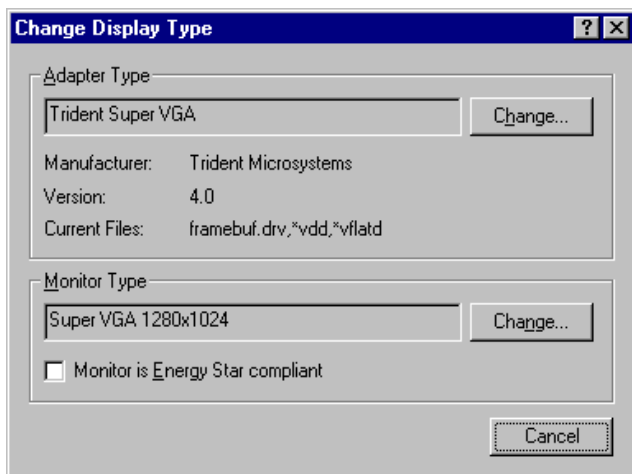

Figure 3-3.
4. **SELECT** either the “Change Display Type” or the “Advanced Properties” selection bar, and then **SELECT** the “Change” button next to Adapter Type (refer to Figure 3-3).